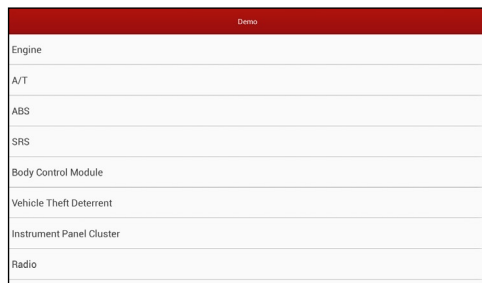

Fig. 5-16
- 4 Tap “Demo” to enter system selection interface. See Fig. 5-16.